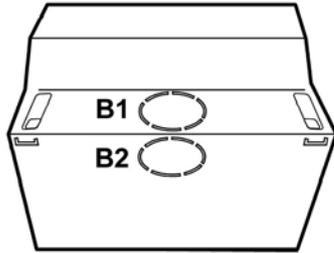
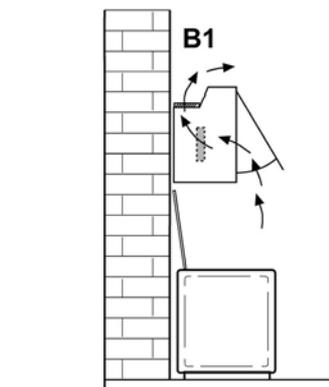

Fig. 2
Fig. 2.2
The fumes and steam are recycled into the kitchen. **Fig. 2.2**
**Only filtering version:** use ONLY the upper **B1 outlet (Fig. 2 - Fig. 2.2)**. Check that this, once installation is completed, is not obstructed and that there is sufficient space so that the purified fumes and steam can return easily into the kitchen.